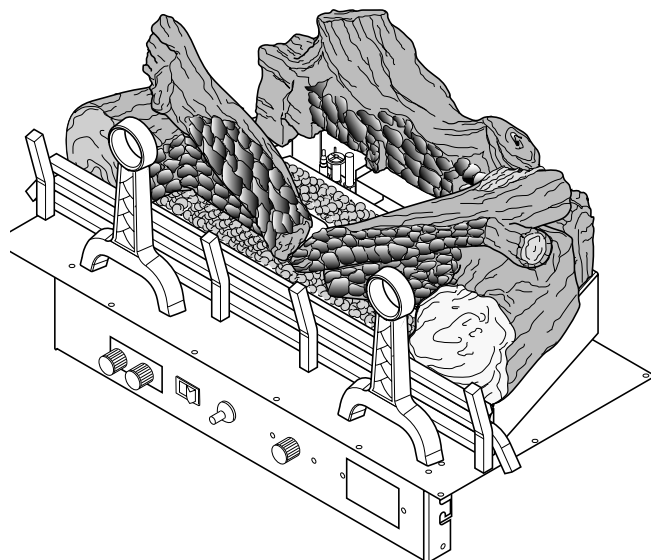

Figure 51 - View of All Logs Properly Installed
6. Logs should all be properly installed as in *Figure 51*.